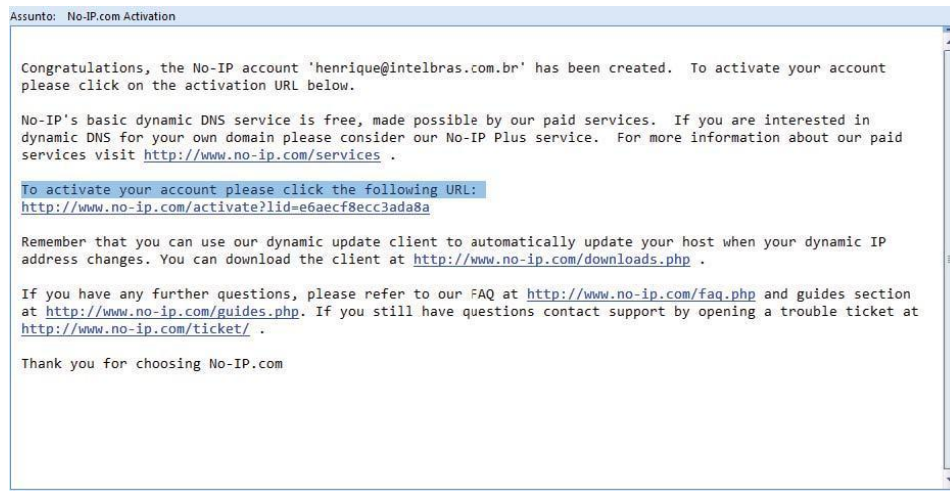

Figure 14-4
4. Open the e-mail sent by trusted rmação No-IP and double-click the link that is below the phrase "To activate your account please click the following URL:" in the body of the email. See Figure 14-4.